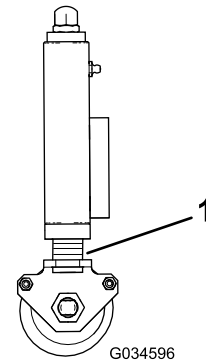

Figure 27
2. Ensure that all cutting units are set at the same height of cut by referring to the indicator rings (Figure 27).